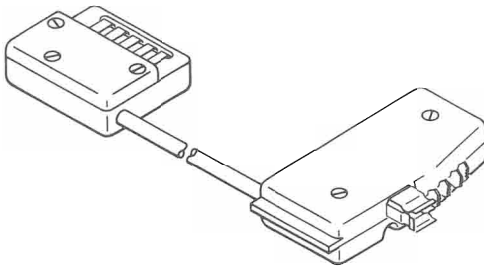

Fig. 1—P5M Cord
- P5M cord (Fig. 1)—Used to connect upper housing to lower housing in 200-type sets with transfer contacts